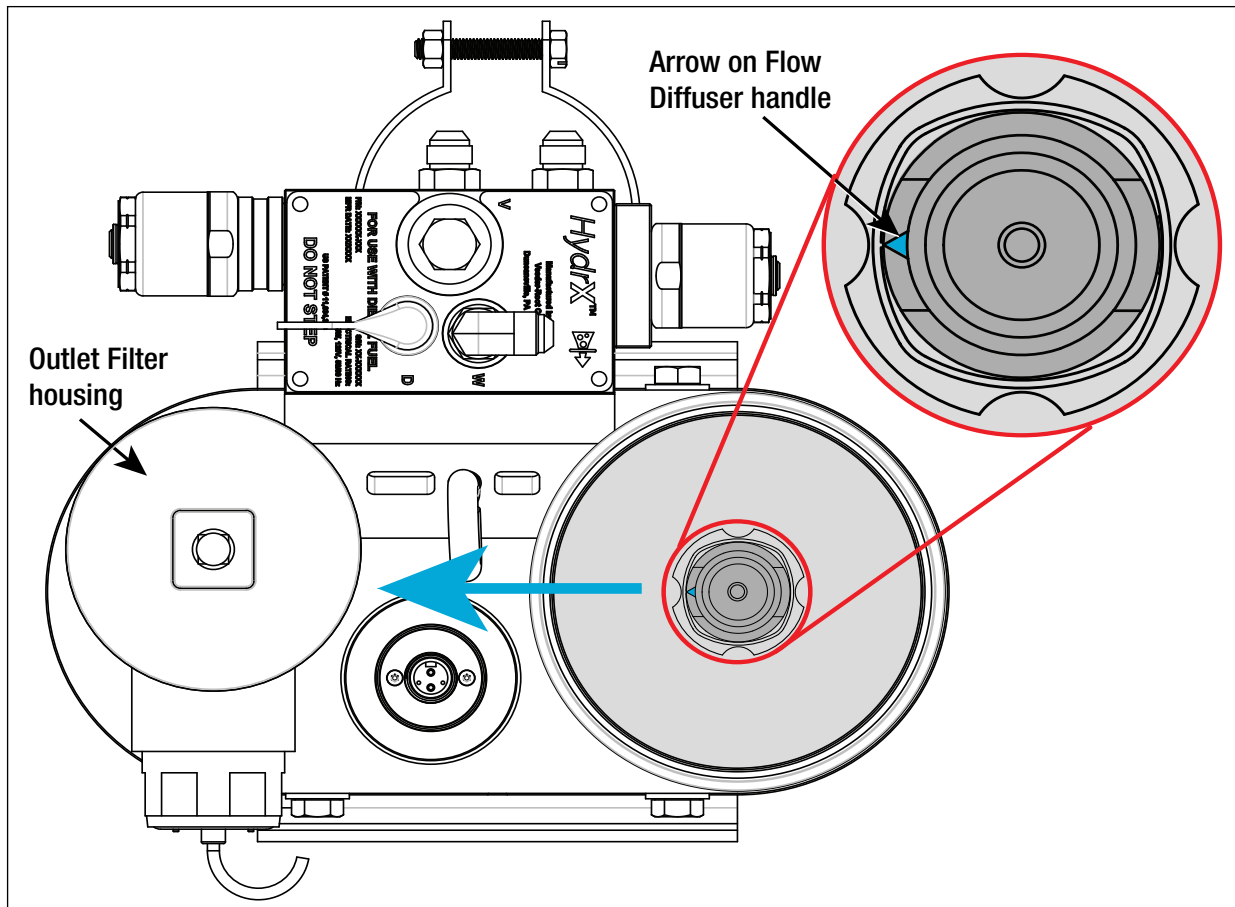

Figure 3. Orient Flow Diffuser Slots Towards Inlet Filter During Installation
7. Install the Flow Diffuser into the inlet filter Geo-seal bushing with the arrow on the Flow Diffuser handle pointing towards the Outlet Filter housing as shown in Figure 3.